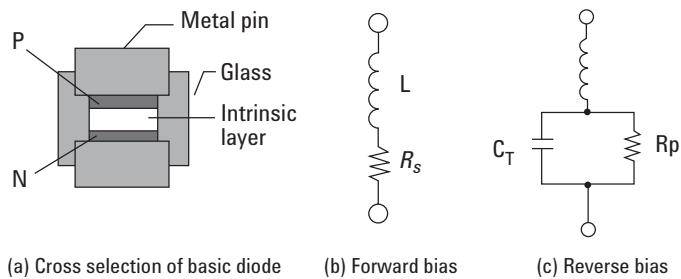

Figure 3. PIN diode equivalent circuits
PIN diodes are another mainstream switching technology. The PIN diode structure consists of an intrinsic (I) layer with very high resistivity material sandwiched between regions of highly doped positively (P) charged and negatively (N) charged material as shown in Figure 3(a).
When the PIN diode is forward biased, positive charges from the P region and negative charges from the N region are injected into the I-layer increasing its conductivity and lowering its resistance. Figure 3(b) shows the equivalent circuit with the PIN diode forward biased. L is the parasitic inductance and R_s is the series resistance, approximately 1Σ depending on the biasing applied and the PIN diode structure.
With reverse or zero biasing, the I layer is depleted of charges and the PIN diode exhibits very high resistance (R_p) as shown in Figure 3(c). C_T is the total capacitance of the PIN diode which is the sum of the diode junction capacitance (C_{J0}) and the parasitic capacitance (C_p). Capacitance limits switch performance at high frequencies in the form of isolation roll-off and increased insertion loss. A low capacitance diode may help improve performance at higher frequencies.